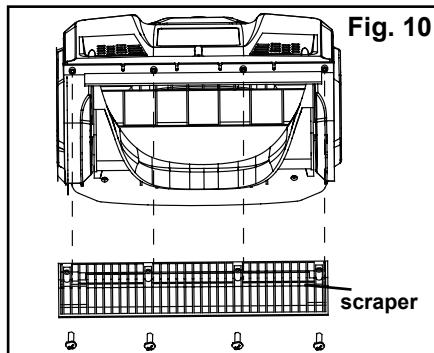

Fig. 10
- Remove the scraper, and discard it in the proper manner. (Fig. 10).